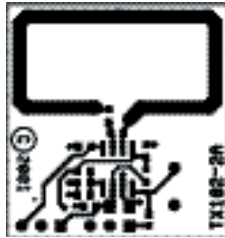

Figure 7. Demo Board PCB.
**Note 2.** Ideally, the antenna size should not be larger than the one shown in Figure 7. The bigger the antenna area, the higher the loaded Q in the antenna circuit will be. This will make it more difficult to match the parallel and series
The reference design, shown in Figure 7, has an antenna meeting this requirement.